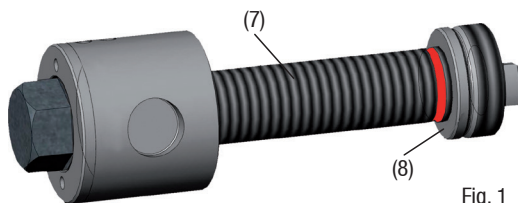

Fig. 1
- The spindle nut (8) may not protrude over the marking on the threaded spindle (7) (Fig. 1).